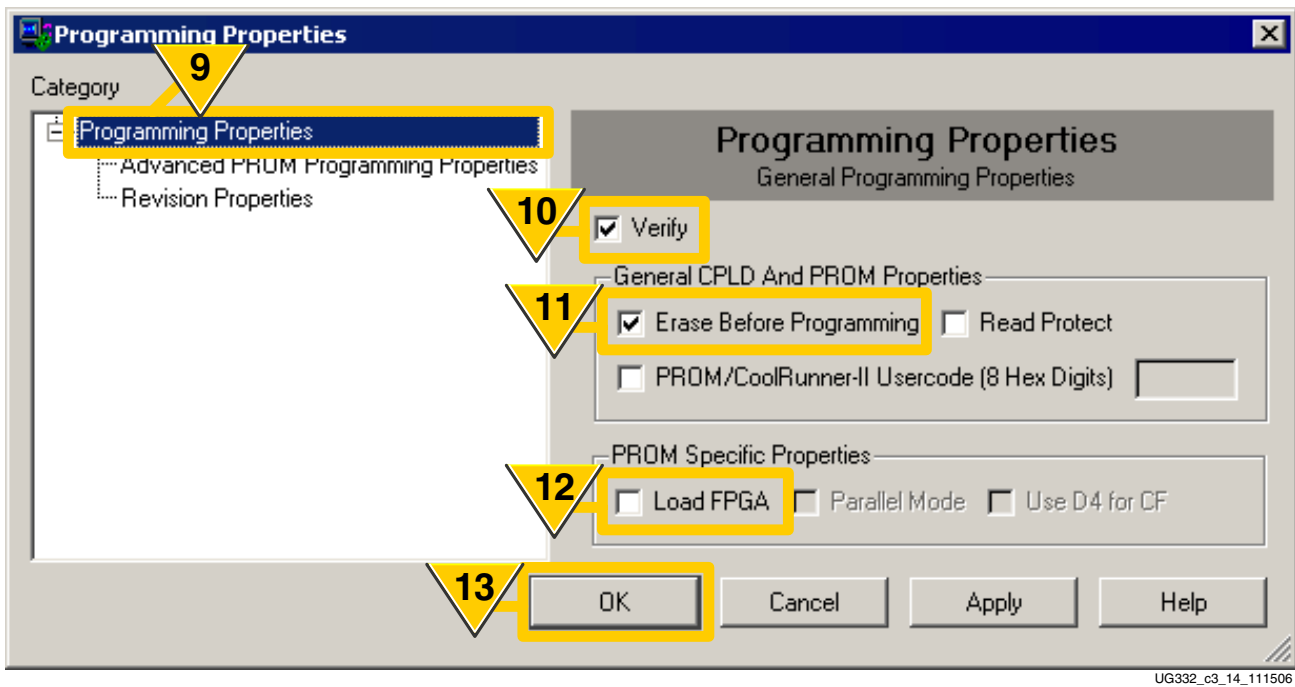

Figure 3-19: PROM Programming Options
- Click Programming Properties, as shown in Figure 3-19.